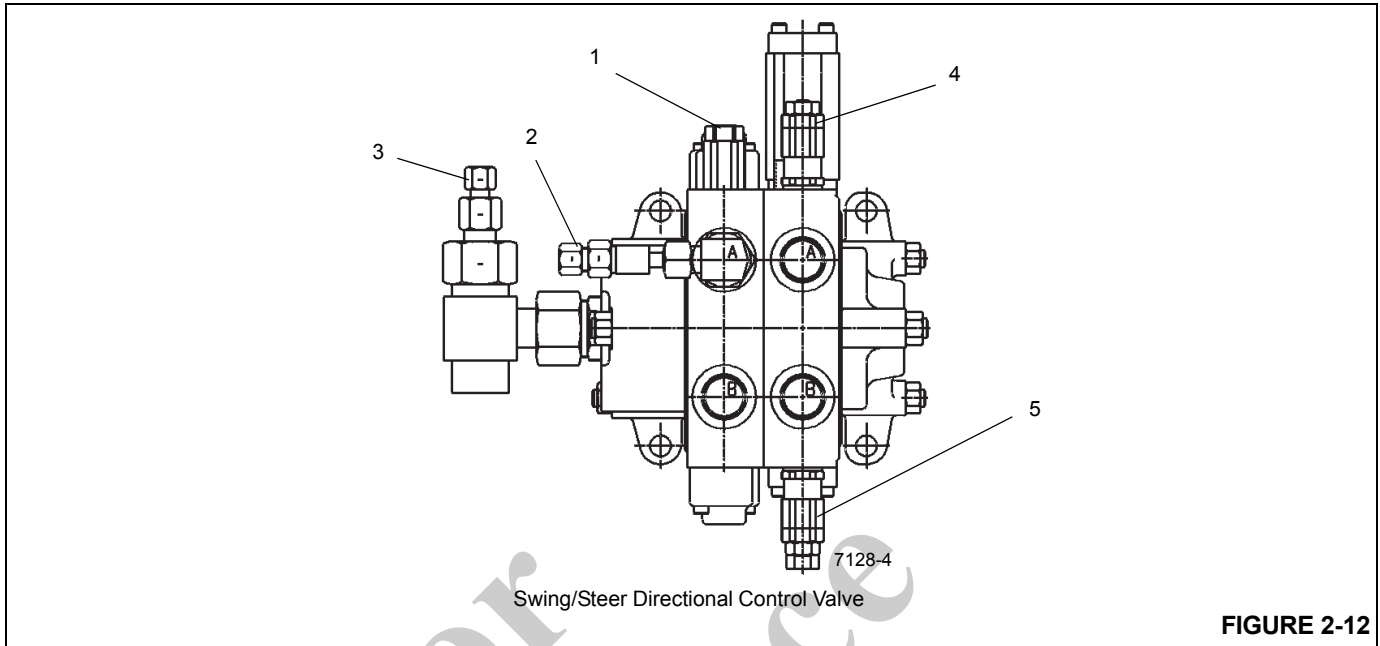

FIGURE 2-12
1. Remove cap and install pressure gauge on steer valve load sense test port (Figure 2-12).
1. Remove cap and install pressure gauge on swing valve inlet test port (Figure 2-12).